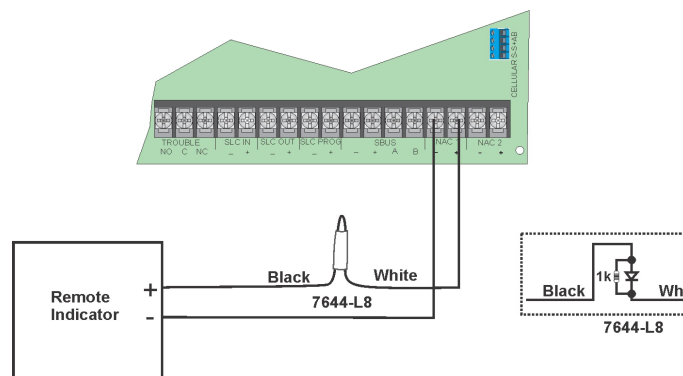

Figure 4.50 Polarity Reversal Connection Using the 7644-L8
1. Wire the 7644-L8 to the control panel as shown in Figure 4.50.